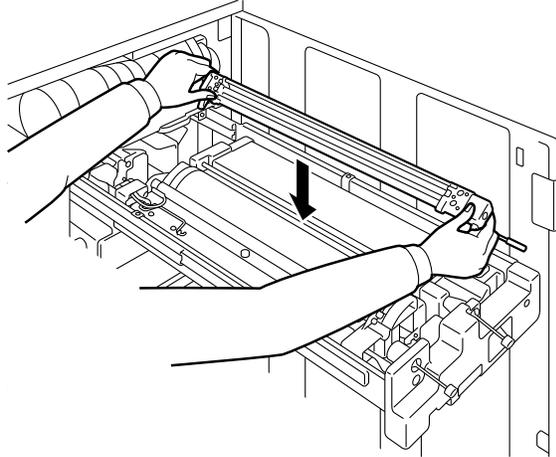

Figure G-3
3. Re-install the Main Charger Unit as shown in Figure G-3.